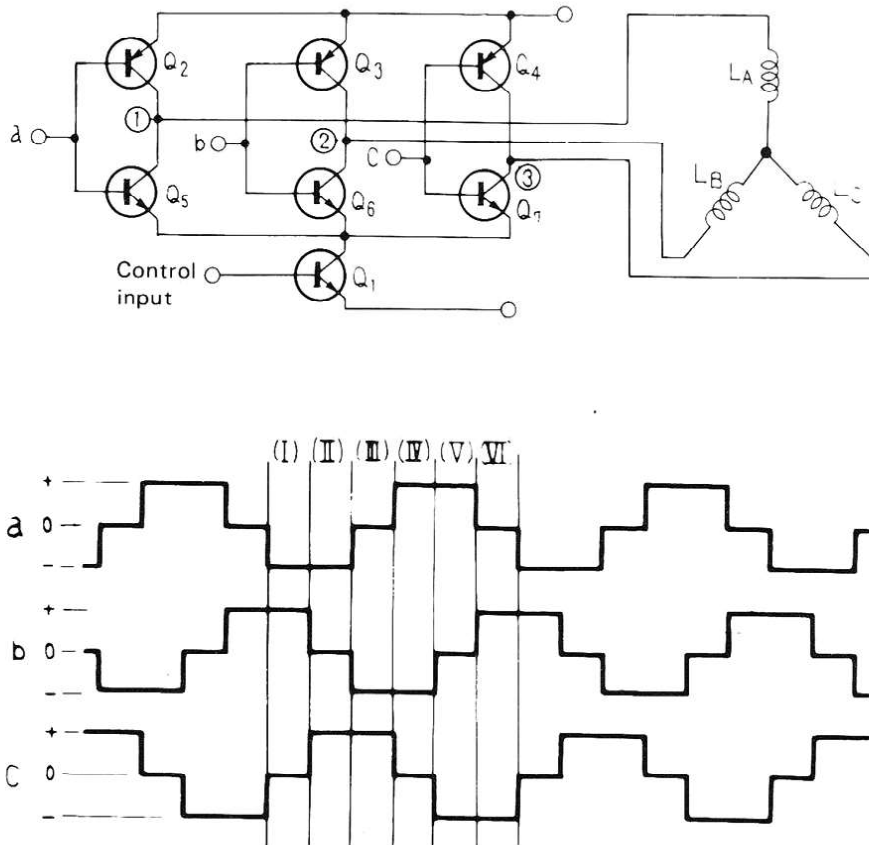

Fig. 7-6
1. The signals employed in the switching of Q2 ~ Q7 in Fig. 7-6 are generated by 3 Hall elements, and applied to terminals a, b, and c via the position signal formation circuit.